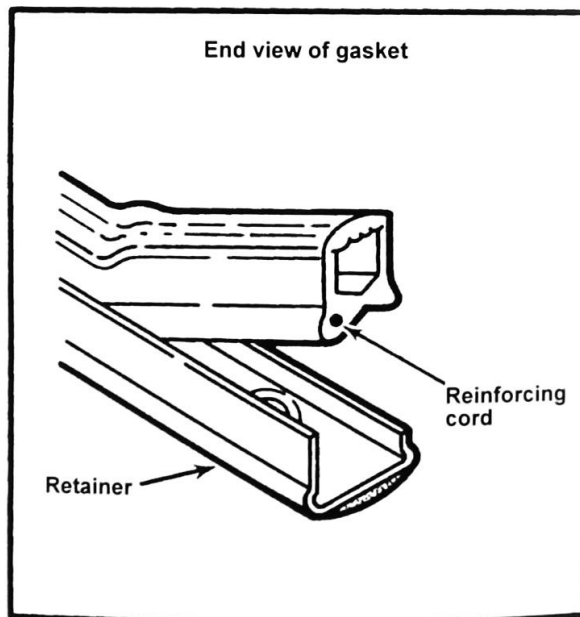
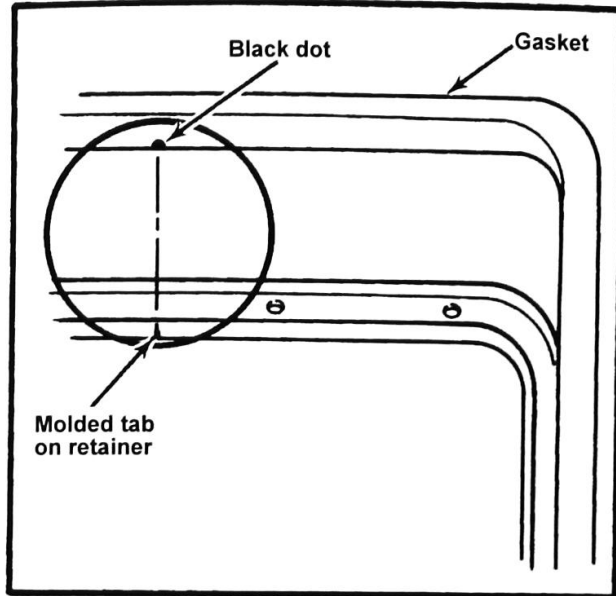

Figure 6
Figure 7
NOTE: Do not pull or stretch the gasket. This will break the inner reinforcement cord, which would then allow the gasket to stretch too far. See Figure 6.
The black dot on the gasket indicates the center of the gasket. The retainer center is indicated with a molded tab. See Figure 7. Also, there is a second black dot (smaller) on the end of the gasket that indicates the reinforcement cord. See Figure 6.
1. Line up the black dot on the gasket center with the center tab on the retainer. The black dot goes to the back and down on the retainer bottom. See Figure 7.